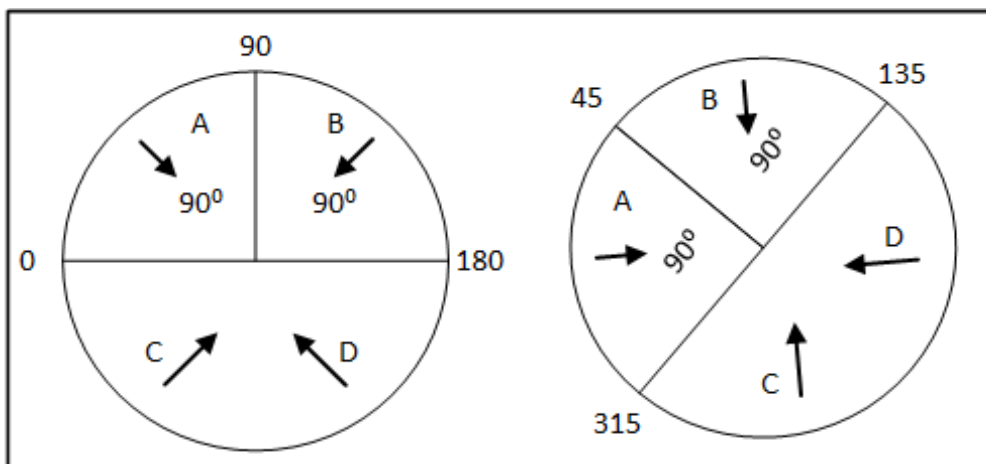

Figure 7: Wind Direction Sensor Definition (7.18)
The number entered here defines the area on both sides of the sensor! Figure 7 illustrates a chicken house with four wind sensors. Sensor 1's Wind Direction parameter is defined as 45° or **90° total**. Winds that come within this area (A) are used for Natural Programing. The controller disregards winds outside of this area (B & C).